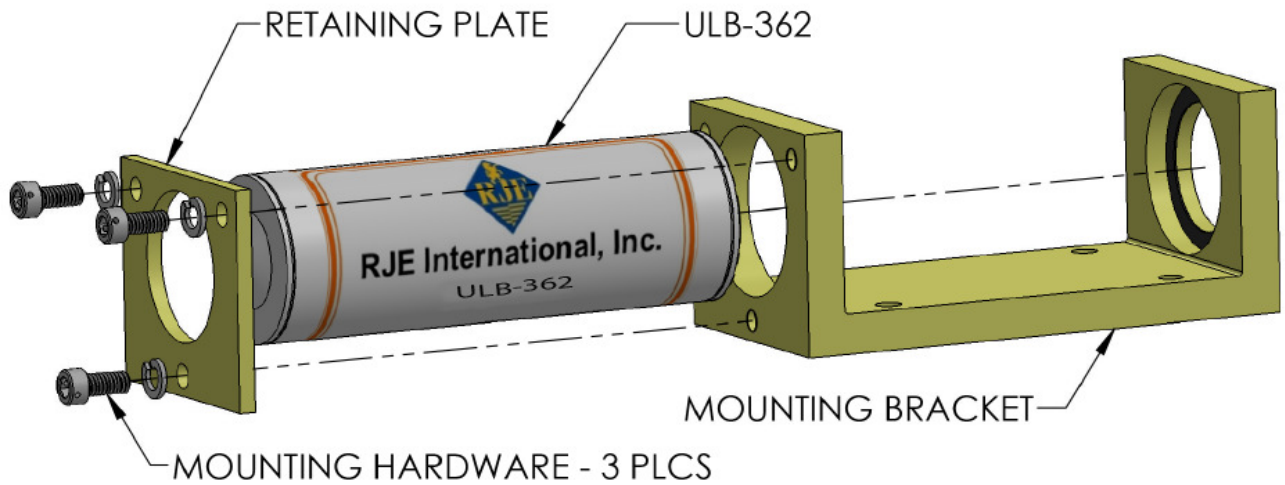

Figure 3-3 Installing the Beacon into the Mounting Bracket
Figure 3-3 Installing the Beacon into the Mounting Bracket	7
5. Slide the beacon into the bracket as shown in Figure 3-3. Rotate the beacon until the battery date is visible and secure it in place with the end plate and the three drilled socket head cap screws.